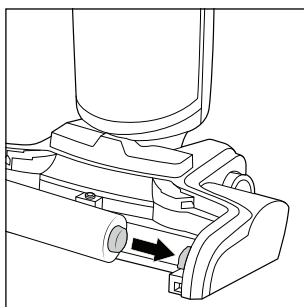

Fig. 39
- ♦ Fit the rotary brush **6** and the splash guard **7** back onto the appliance by first pushing the rotary brush **6** onto the fitting on the right side of the foot section **3** (see fig. 39).